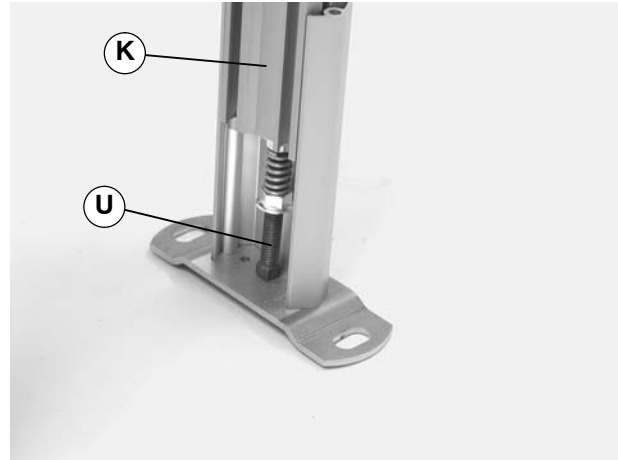

Figure 16
2. Raise stand leg (K of Figure 16) until it is above fine adjustment bolt assembly (U). Insert fine adjustment kit (U) into stand leg (K).